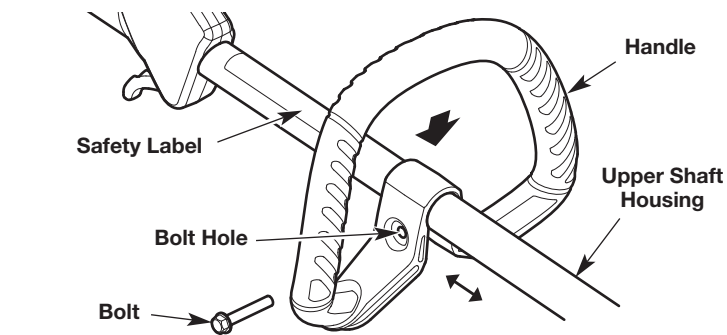

Fig. 9
1. Push the handle down onto the upper shaft housing (Fig. 9). Make sure the bolt hole faces to the right (Fig. 9).
2. Insert the bolt into the bolt hole and push it through (Fig. 9). Tighten the bolt with a flat-head screwdriver, but do not tighten the bolt completely.
3. Hold the unit in the operating position (Fig. 21). Move the handle up or down the upper shaft housing to a comfortable location (Fig. 9). Make sure the handle is positioned beyond the end of the safety label (Fig. 9).
1. Loosen the bolt with a flat-head screwdriver (Fig. 9).
2. Hold the unit in the operating position (Fig. 21). Move the handle up or down the upper shaft housing to a comfortable location (Fig. 9). Make sure the handle is positioned beyond the end of the safety label (Fig. 9).